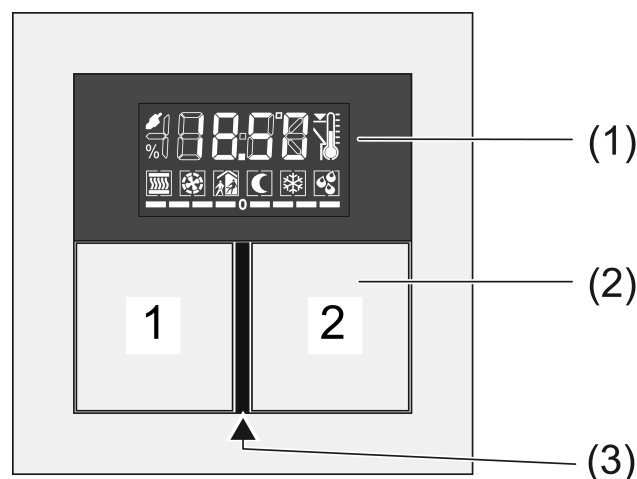

Figure 1
- Open: Press the buttons **1** and **2** at the top (Figure 1).